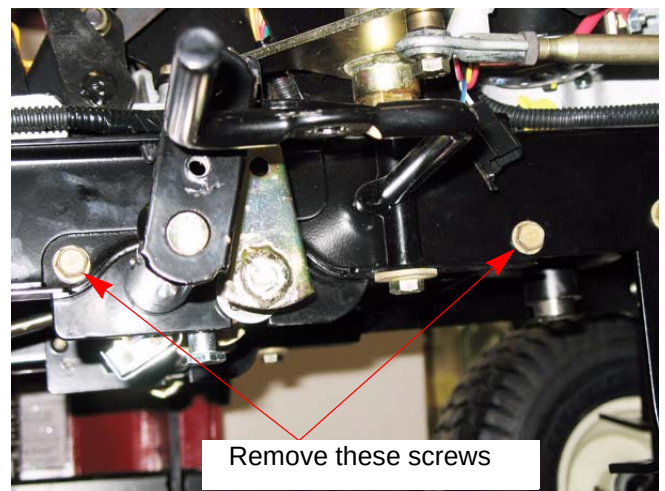

Figure 3.14
3. Remove the four screws, two on each side, that hold the sub frame in place and slide it down. See Figure 3.14.